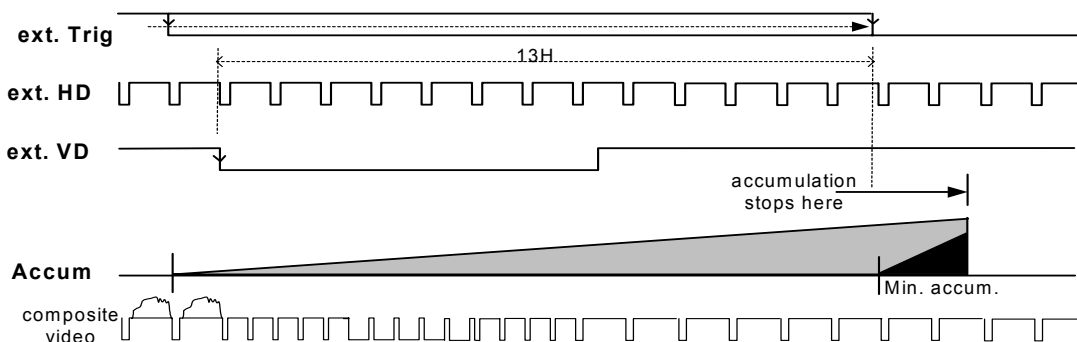

Fig. 26. Start/Stop timing details.
- For exposures <14 H, the trigger pulse is after the extern VD pulse. Fig. 26